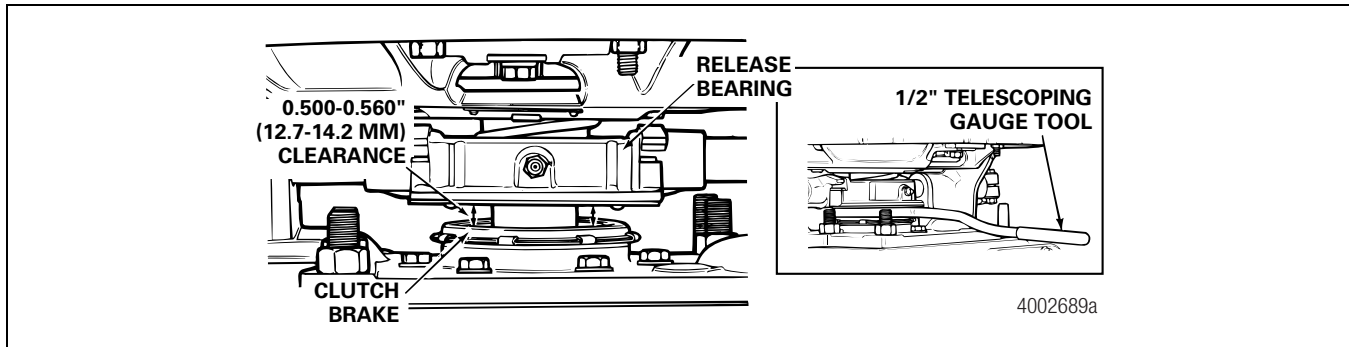

Figure 3.10
2. **Release Bearing Clearance.** The AutoJust clutch clearance should be 0.500-0.560-inch (12.7-14.2 mm). Figure 3.10.